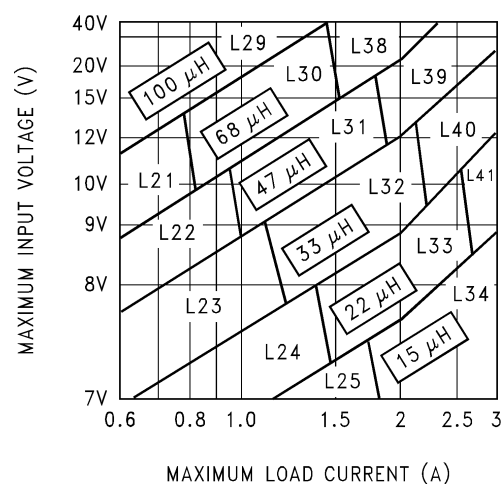
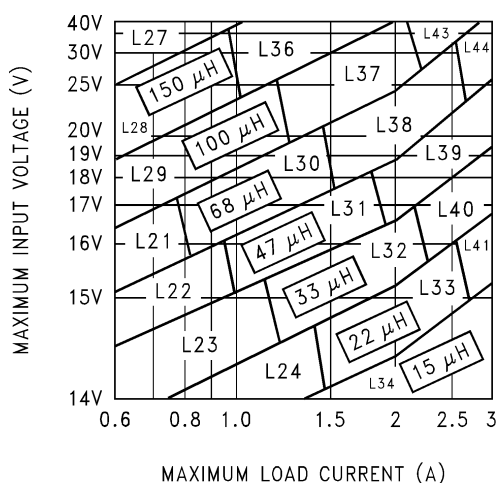

Figure 22. LM2596-5.0
Figure 23. LM2596-12
1. Inductor Selection (L₁) A. Select the correct inductor value selection guide from Figures Figure 21 , Figure 22 , or Figure 23 . (Output voltages of 3.3V, 5V, or 12V respectively.) For all other voltages, see the Design Procedure for the adjustable version. B. From the inductor value selection guide, identify the inductance region intersected by the Maximum Input Voltage line and the Maximum Load Current line. Each region is identified by an inductance value and an inductor code (LXX). C. Select an appropriate inductor from the four manufacturer's part numbers listed in Table 3 .	1. Inductor Selection (L₁) A. Use the inductor selection guide for the 5V version shown in Figure 22 . B. From the inductor value selection guide shown in Figure 22 , the inductance region intersected by the 12V horizontal line and the 3A vertical line is 33 μ H, and the inductor code is L40. C. The inductance value required is 33 μ H. From the table in Table 3 , go to the L40 line and choose an inductor part number from any of the four manufacturers shown. (In most instance, both through hole and surface mount inductors are available.)